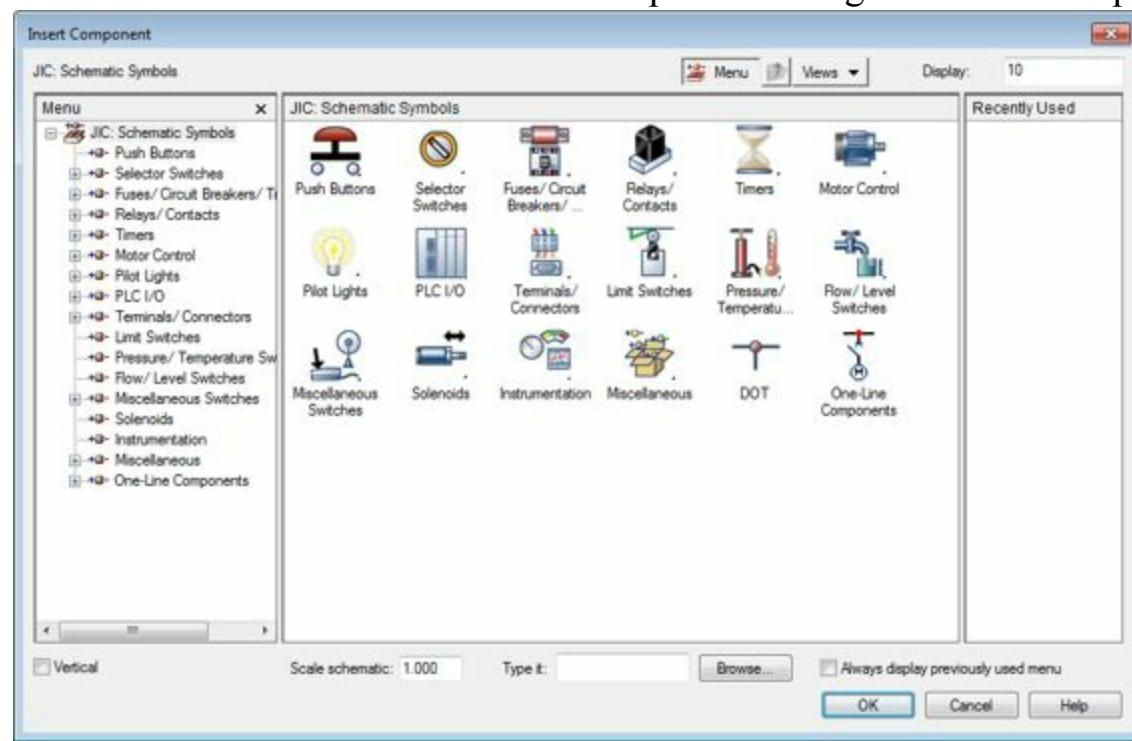

Figure-66. Insert Component dialog box by default
- Click on the button. The Insert Component dialog box will be displayed; refer to Figure-66.